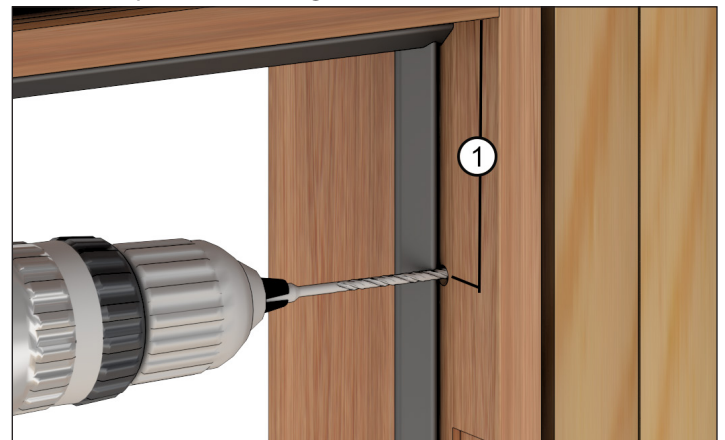

Figure 18
9. After the unit is square and level, drive screws through the side jamb and into the framing approximately 4"-6" (102-152) from the top corners. See figure 18.